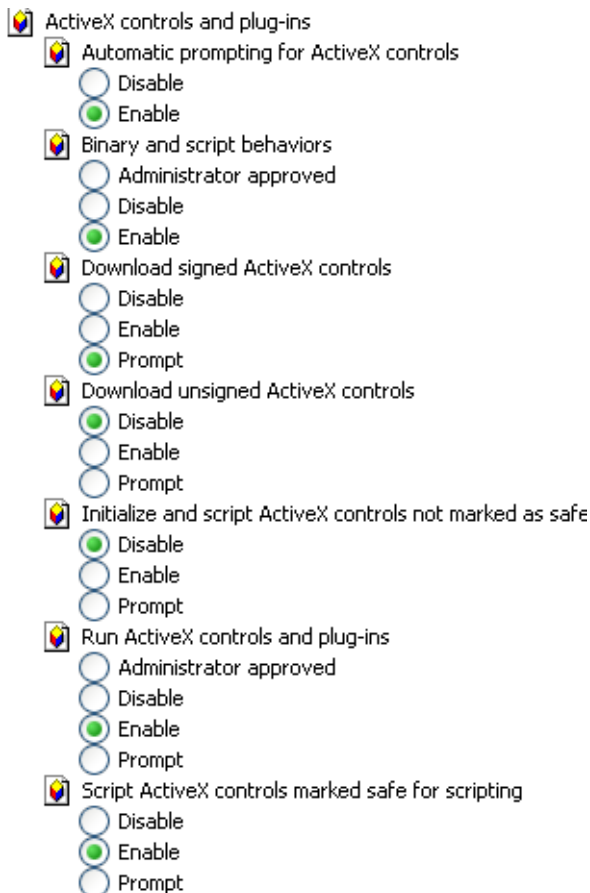

Figure 2-3: Options to Enable for ActiveX
3. Make sure you enable the selections shown as enabled in Figure 2-3, “Options to Enable for ActiveX.”